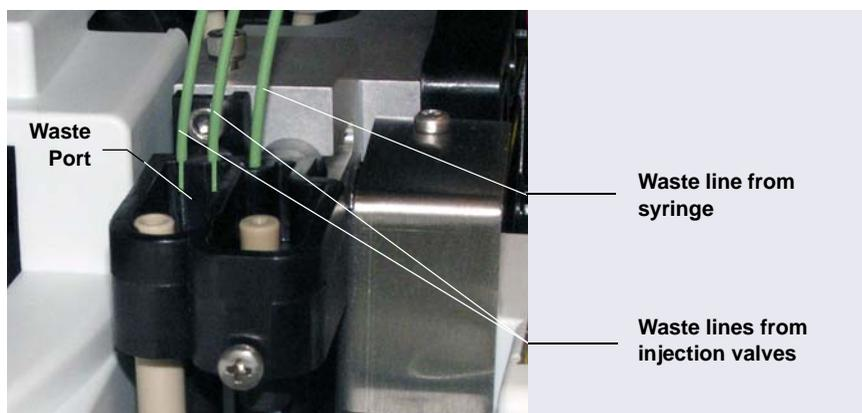

Figure B-27. *Injection Valve Waste Lines Installed in Waste Port*
- d. Connect each waste line to port **W** (6) on the system's injection valve.
6. Route the waste line from each injection valve to the Dionex AS-AP waste port and insert the lines into the round openings in the port (see Figure B-27).